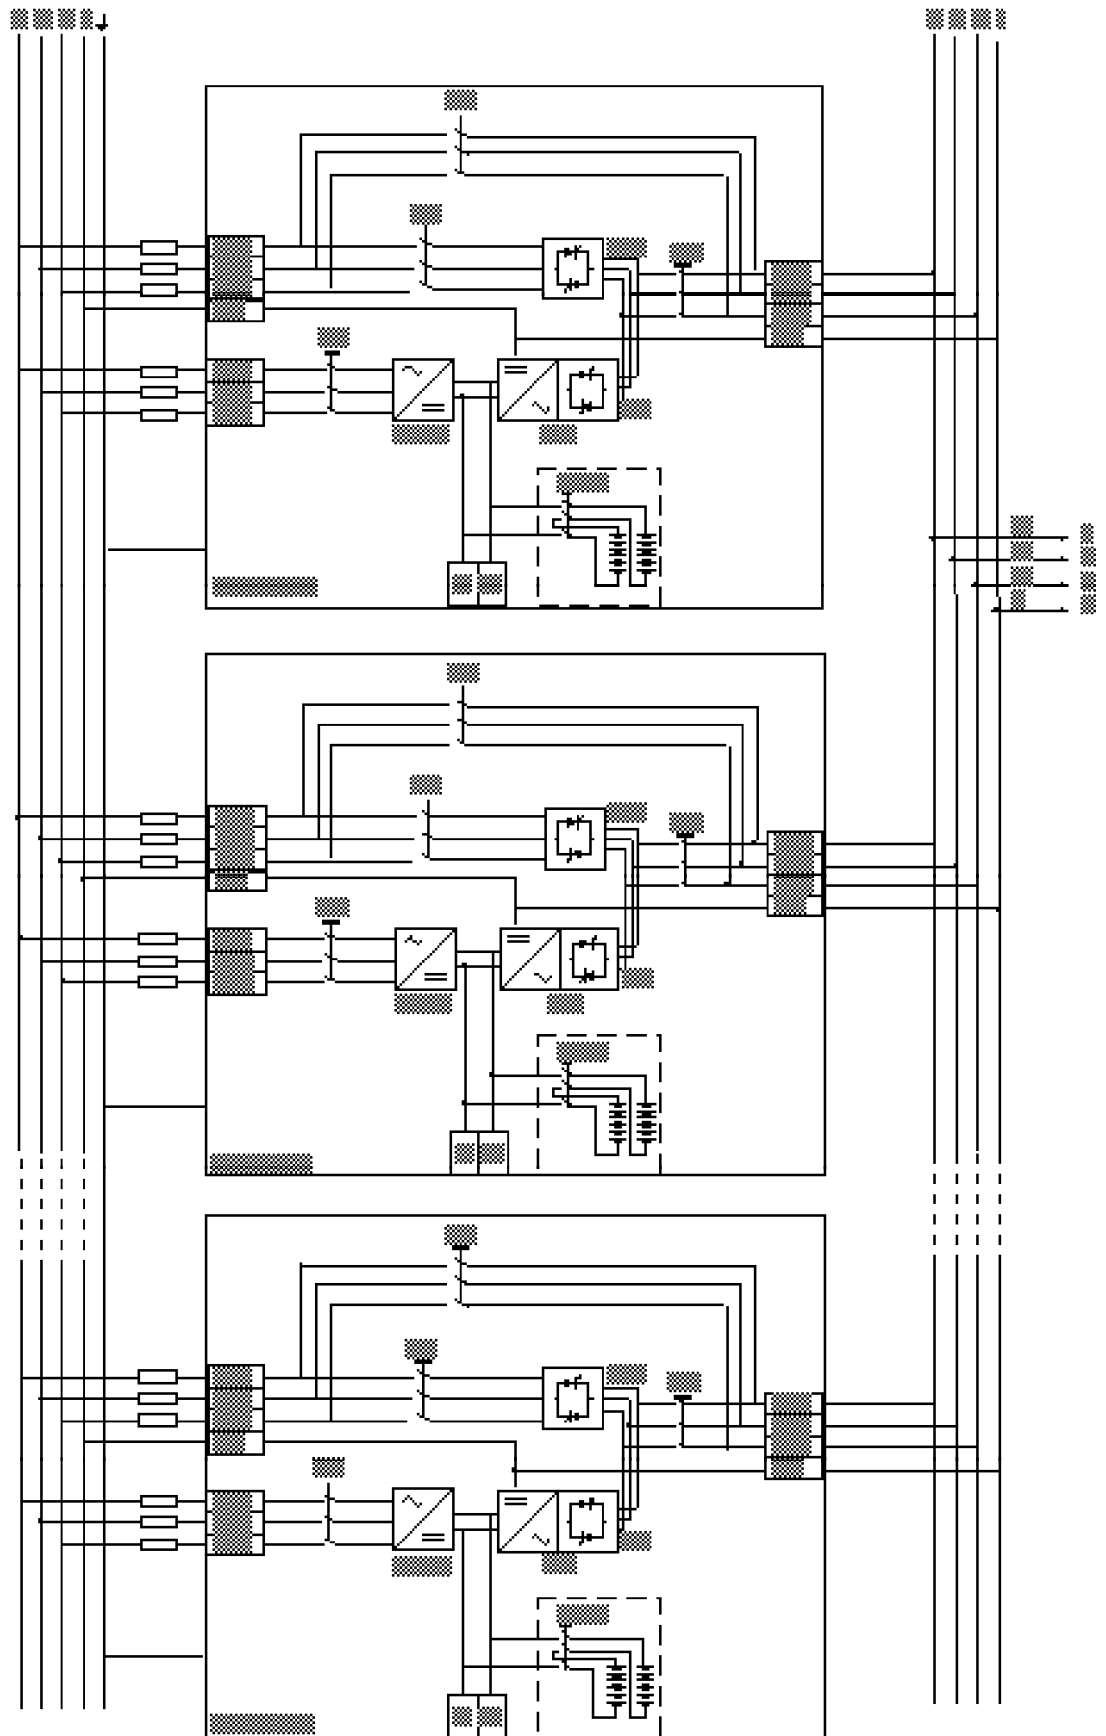
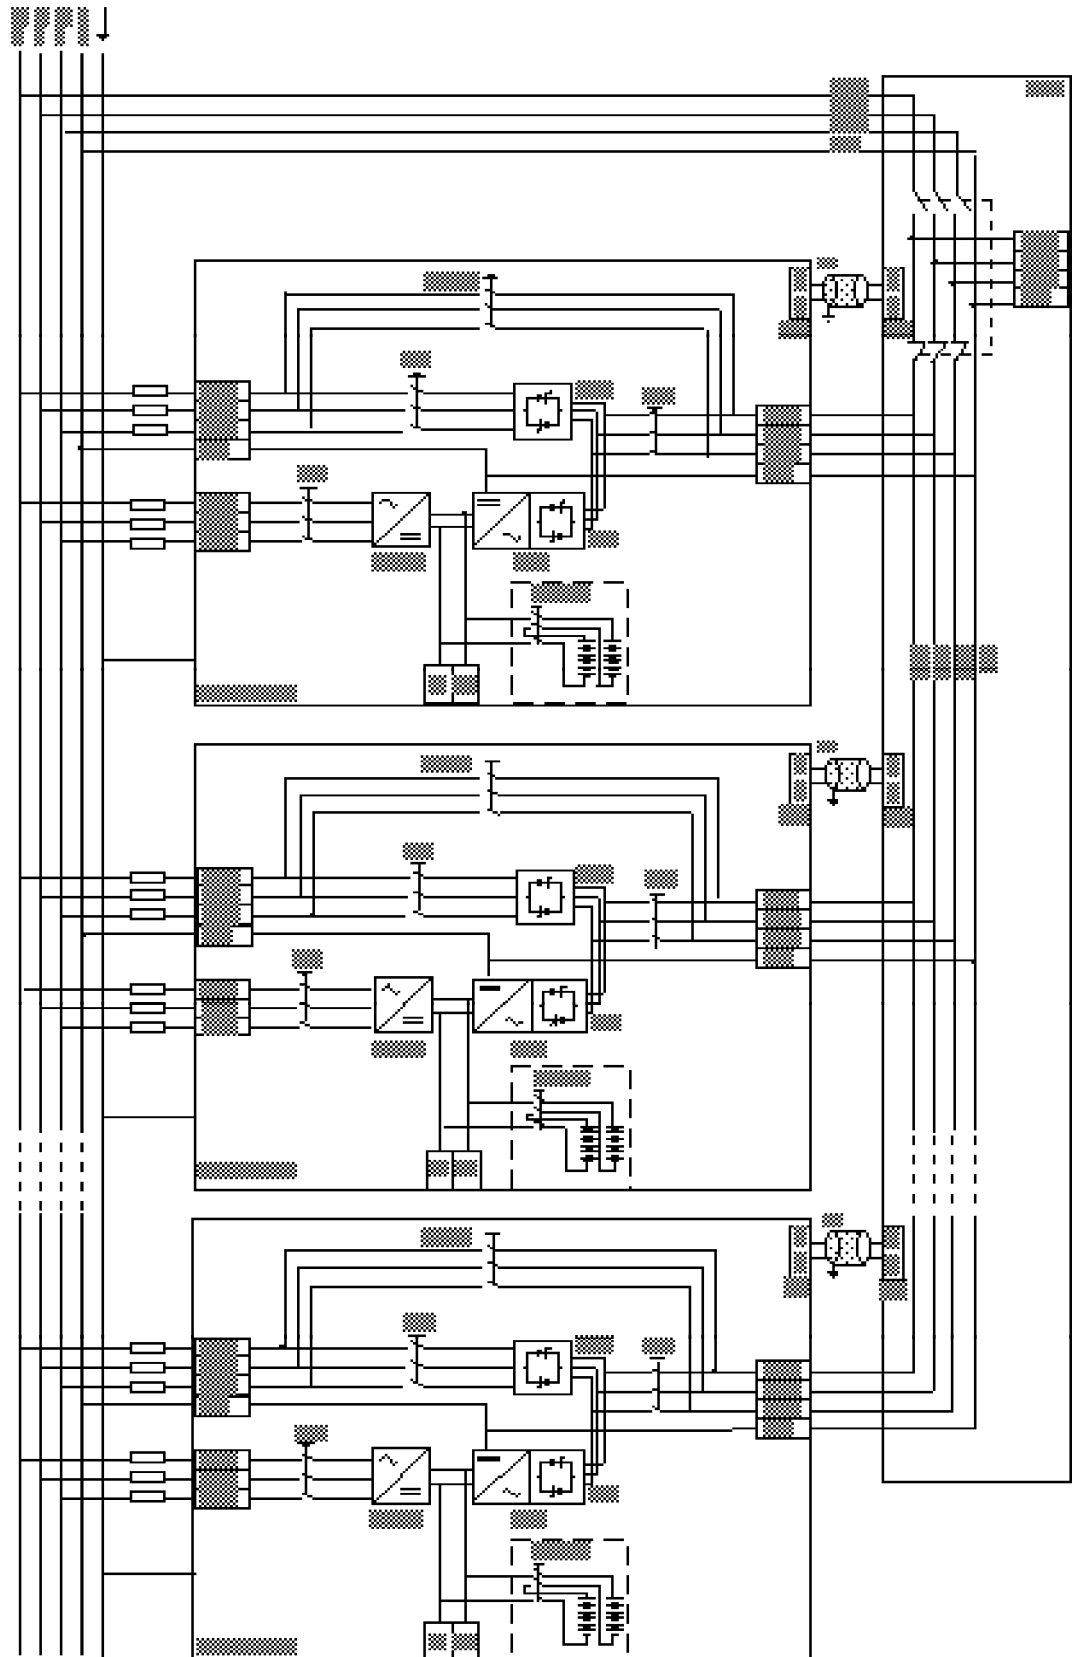

FIG. 1.11.1 Interconnection of parallel units with integrated maintenance bypasses and separate bypass terminals.
FIG. 1.11.2 Interconnection of parallel units with common maintenance bypass and separate bypass terminals.
**Note:** The installation for each unit must be performed in accordance to the installation of single units as described in the previous sections. Additionally to this, the outputs must be connected in parallel as shown in FIG. 1.11.1 or in FIG.1.11.2